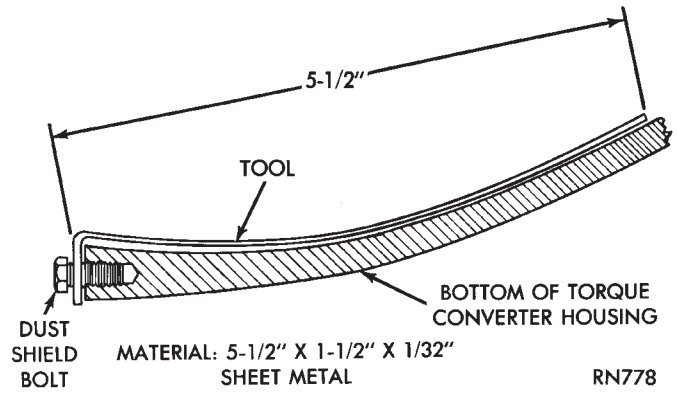
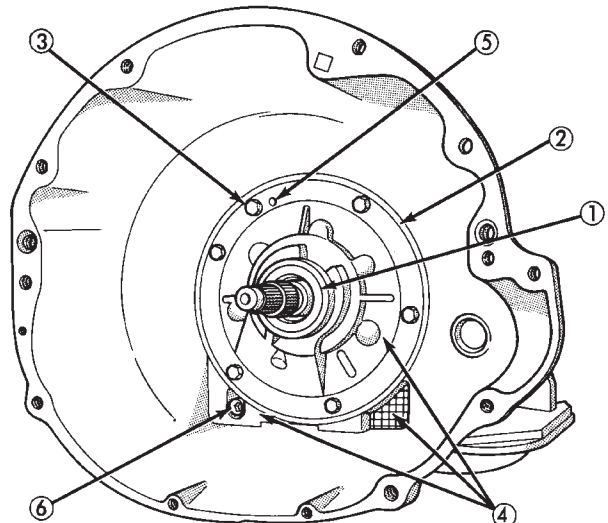

Fig. 6 Leak Test Probe
Fig. 7 Pump Area Inspection Points
- (1) Raise rear of vehicle and allow accumulated fluid to drain out of converter housing.
- (2) Check and adjust transmission fluid level.
- (3) Raise vehicle. Remove converter housing dust cover and wipe as much fluid as possible from converter housing.
- (4) Fabricate test probe (Fig. 6). Attach probe to converter housing with a dust shield bolt.
- (5) Have a helper run engine at 2500 rpm (with transmission in Neutral) for two minutes; then stop engine.
- (6) Inspect test probe and converter housing. If a leak is evident, note color of fluid. Transmission fluid is red. Engine oil ranges in color from brown to green, or to black when oil is dirty.
- (7) If probe upper surface is, the converter and seal are not at fault. A path of fluid across probe upper surface indicates a converter or seal leak. Fluid leaking **under** the probe is coming from pump housing area (Fig. 7).
- (8) Fluid leaking under the probe could be from: pump seal and/or bushing, pump vent, kickdown lever shaft access plug, pump bolts, or porous spots in pump body or transmission case (Fig. 7).
- (9) If porous spots in the transmission case or pump body are the suspected leak source, pressurize transmission as described in Leak Testing With Air Pressure.